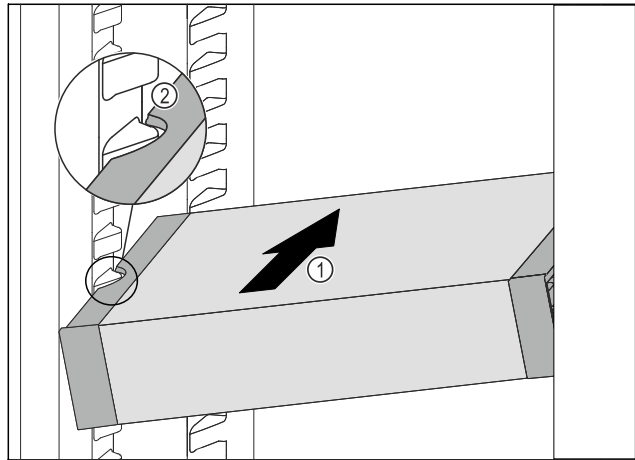

Fig. 78
- ▶ Insert the VarioSafe into the refrigerator compartment at an angle Fig. 78 (1) until the recesses in the side Fig. 78 (2) of the VarioSafe are at the level of the support rib in the refrigerator compartment.